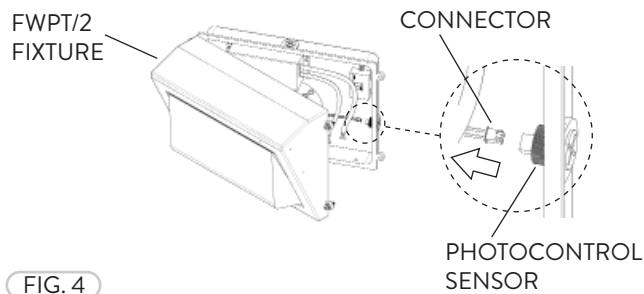

FIG. 4
- 2 Simply disconnect the Connector attached directly to the Photocontrol Sensor at the side of the FWPT/2 (Fig. 4). Close the FWPT/2 fixture and tighten the Screws